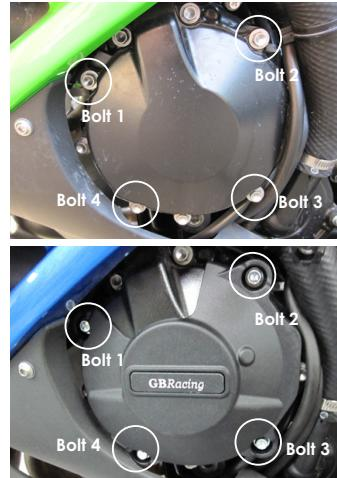

Fig. 1
Please note: 2024 model: See Fig. 1, 2 & 3:
- You will need to remove the small metal cover that has been added to the OE casing for this model - see **Fig. 1**.